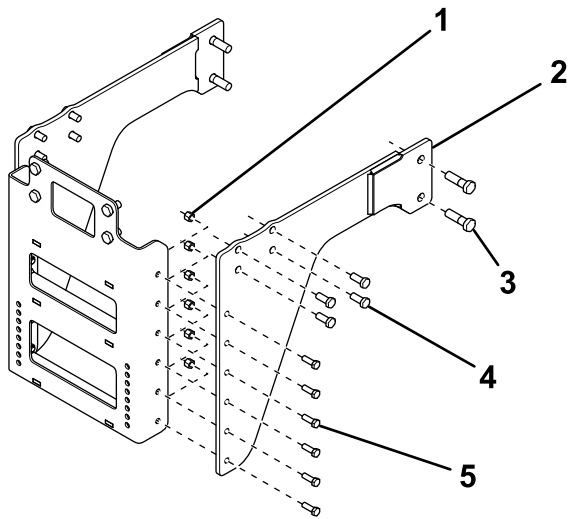

Figure 2
5. Loosely secure the front of each sideplate to the frame using 4 bolts (M16) as shown in Figure 2.
6. Loosely secure the rear of each sideplate to the frame using 2 bolts (M20) as shown in Figure 2.
7. Secure each sideplate to the front plate using 6 bolts (1/2 inch) and nuts (Figure 2).